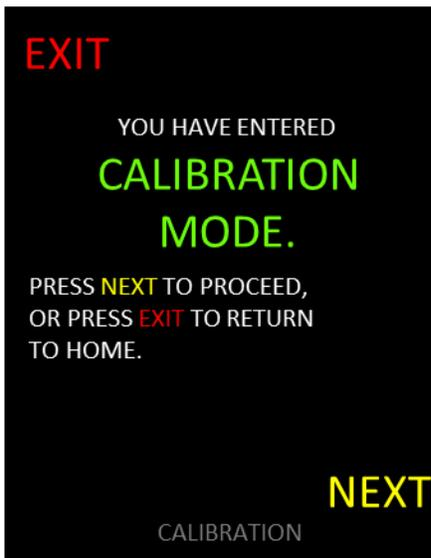

Figure 5.
- 5.7 To exit Calibration Mode prior to completion of calibration, select EXIT at any time (Figure 5). Any values up to that time will not be saved (Figure 6). Reenter Calibration Mode and select NEXT to continue with calibration.